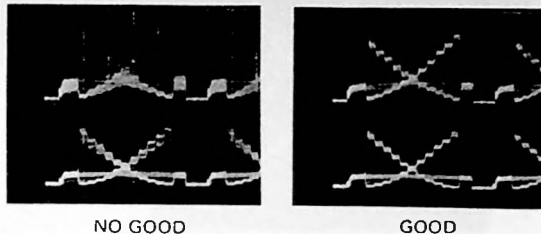

Fig. 4-4-27
- Connect the oscilloscope to TP213 (R) and TP212 (B).
- Adjust Rc/Bc SEPARATION-1 VC201 for minimum waveform flicker (especially B signal at TP212). (Fig. 4-4-27)